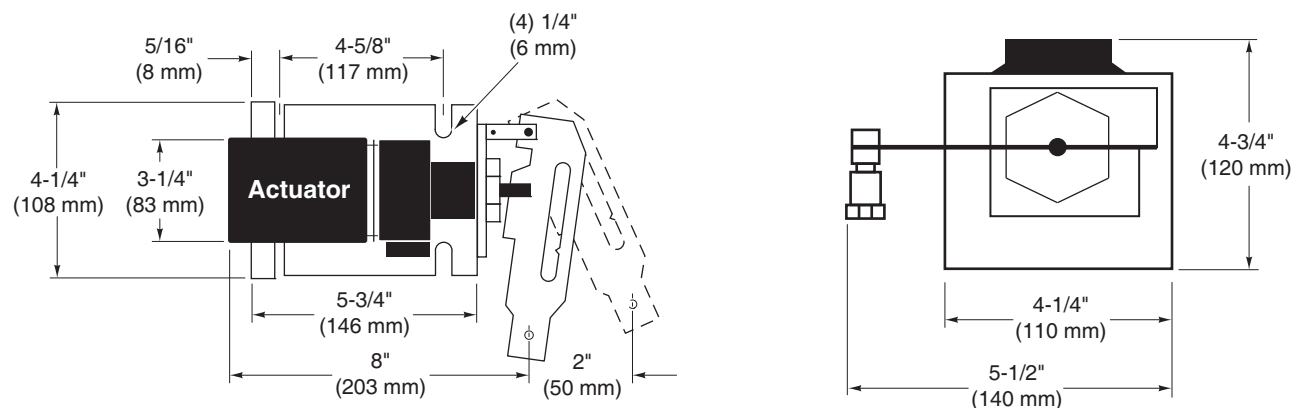

Figure-18 Damper Linkage Assembly Dimensions.
- b. Be sure to allow adequate working space around the actuator mounting location to mount the actuator, link it to the damper, and wire it into the system (refer to Figure-18).
- Position the actuator on the duct and mark the location of the mounting holes, using the actuator mounting bracket as a template (refer to Figure-18).